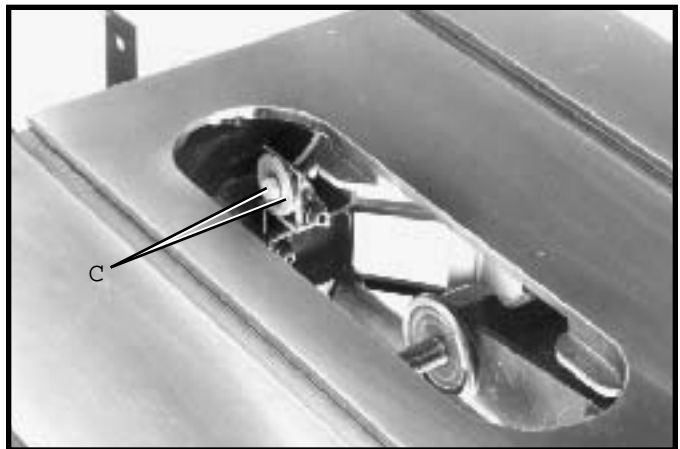

Fig. 26
3 Remove screw and large washer (C) Fig. 26, from the inside splitter mounting bracket.